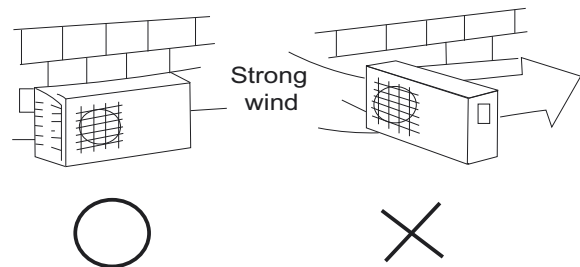

Fig. 10 — High Wind Installation
1. Select the installation location of the outdoor unit following the installation requirements. To prevent high wind exposure, install the outdoor unit with the air inlet side facing the wall (see fig 10).